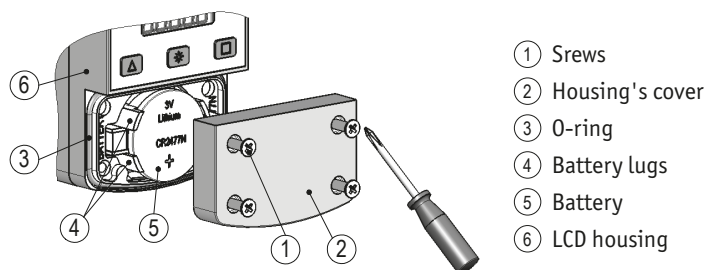

Fig. 10: Battery change
- ▶ Evenly tighten the screws ① until the housing's cover ② is completely aligned with the LCD housing ⑥ (see Fig. 10).
Deinstallation (see Fig. 10):
Installation (see Fig. 10):